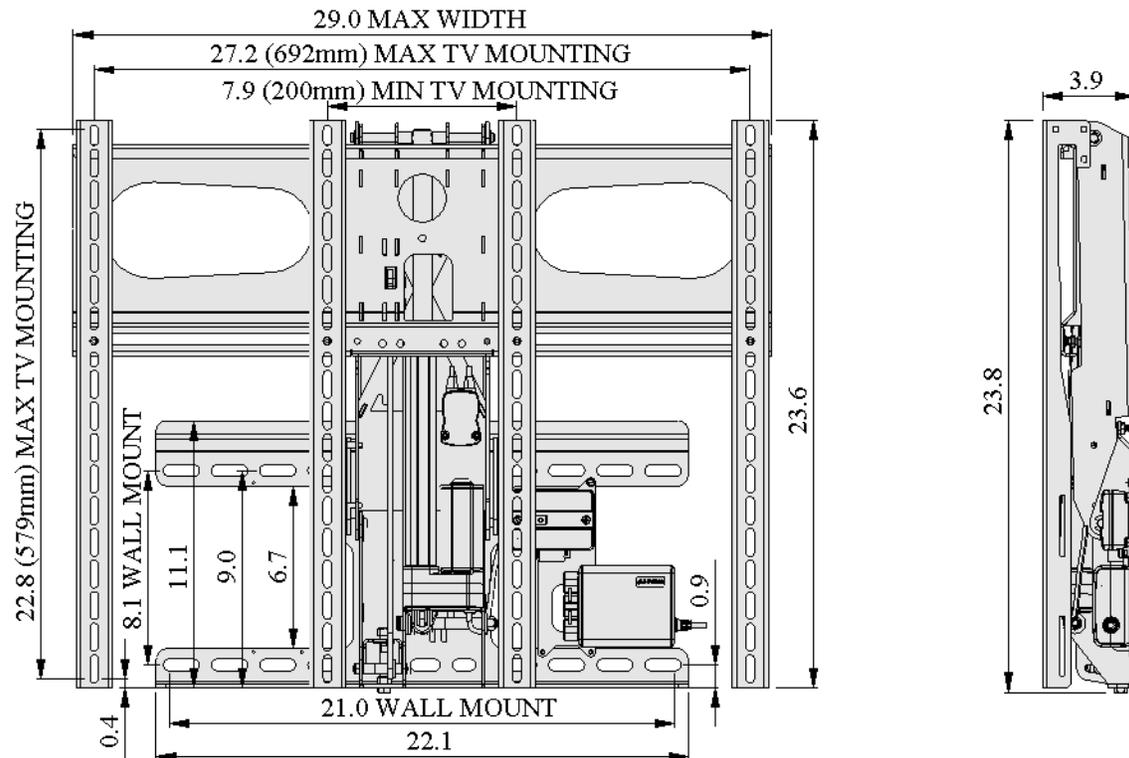

Figure 1, Mount Overall Size, Television Mounting Hole Pattern Range, Wall Mounting Hole Pattern Range
- **Note for smaller televisions;** the mount may be wider or taller than the television. If this is the case then the mount may be visible in the top position. See Figure 1
- Allowable television mounting pattern: 6.7in (170mm) to 27.2in (692mm) wide, up to 22.8in (579mm) high. Works with all VESA patterns in that range, See Figure 1
- Product Dimensions: 29.0 x 23.8 x 3.9 inches. See Figure 1